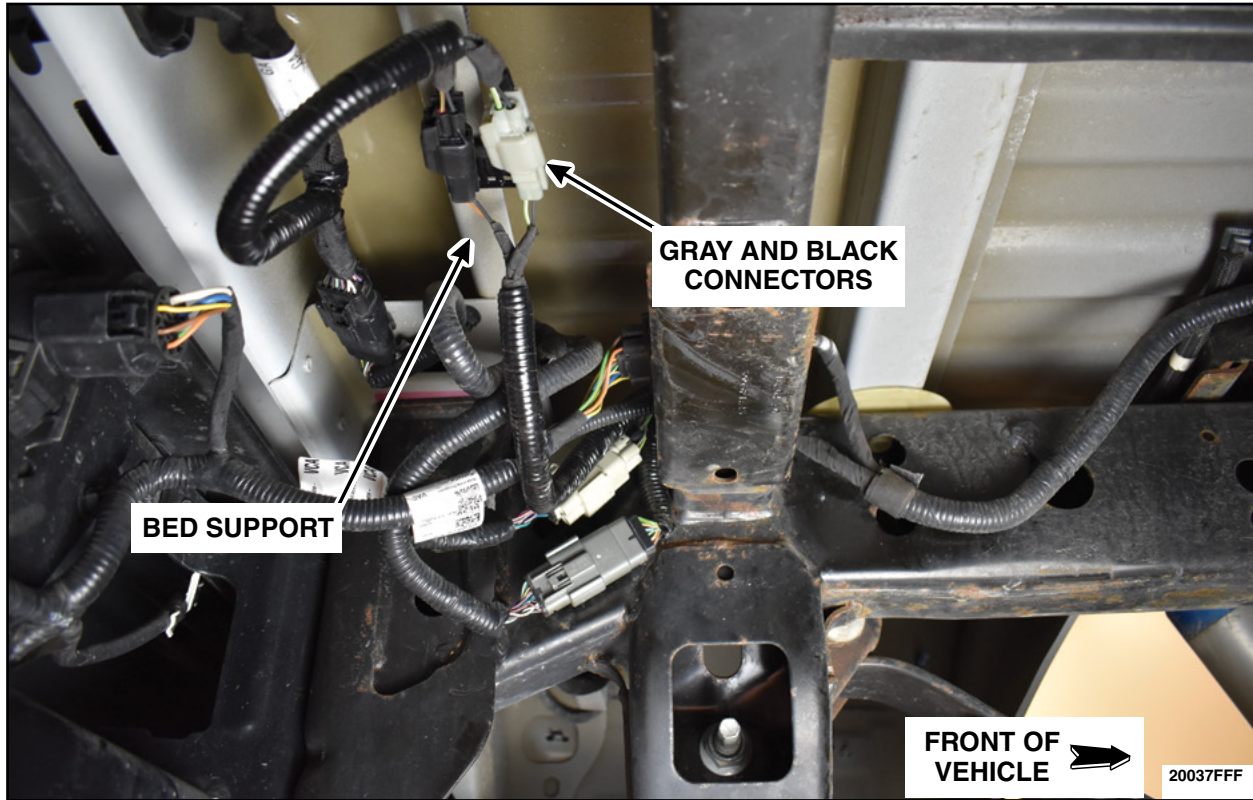

FIGURE 88
80. Reconnect the gray and black connectors and attach them back onto bed support. See Figure 88.